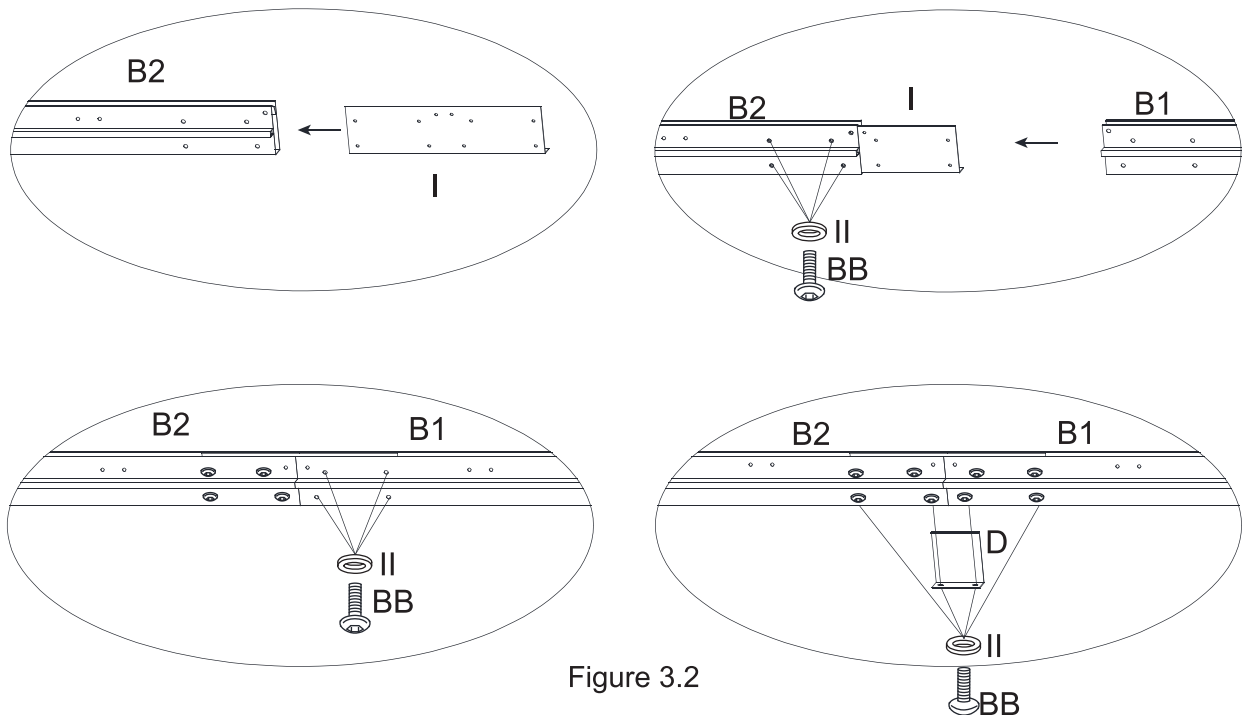

Figure 3.2
3.2. Connect the Long Left Lintel (B1) with the Long Right Lintel (B2) through the Lintel Connector -Large (I) by bolt (BB) and washer (II) , then put the Lintel Cover - Center (D) onto the joint of the two lintels with bolt (BB) and washer (II) , pay attention to install the screws based on the orders shown in the illustration. See Figure 3.2.